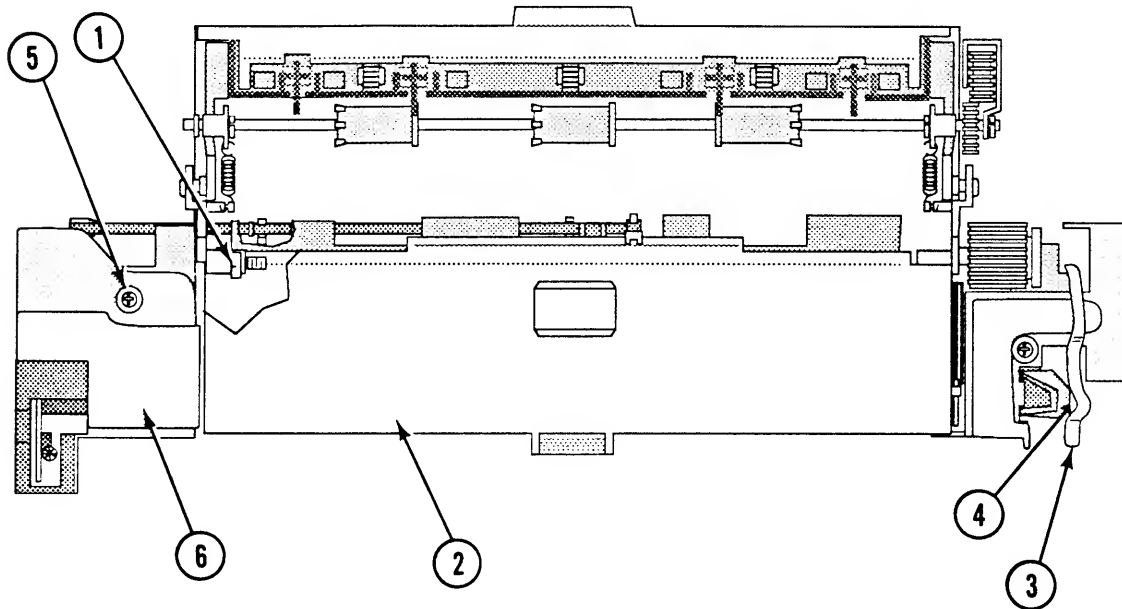

FIGURE 9
2. Loosen the Phillips screw (Figure 9, #1) that secures the fuser cover (Figure 9, #2) to the fuser assembly. Remove the fuser cover.
4. Using the screwdriver or grip-ring pliers, remove the E-ring (Figure 9, #3) that secures the drive release cam to the fuser assembly.
5. Remove the drive release cam (Figure 9, #4) and the spring.
6. Remove the Phillips screw (Figure 9, #5) that secures the left contact cap (Figure 9, #6) to the fuser assembly. Remove the cap.